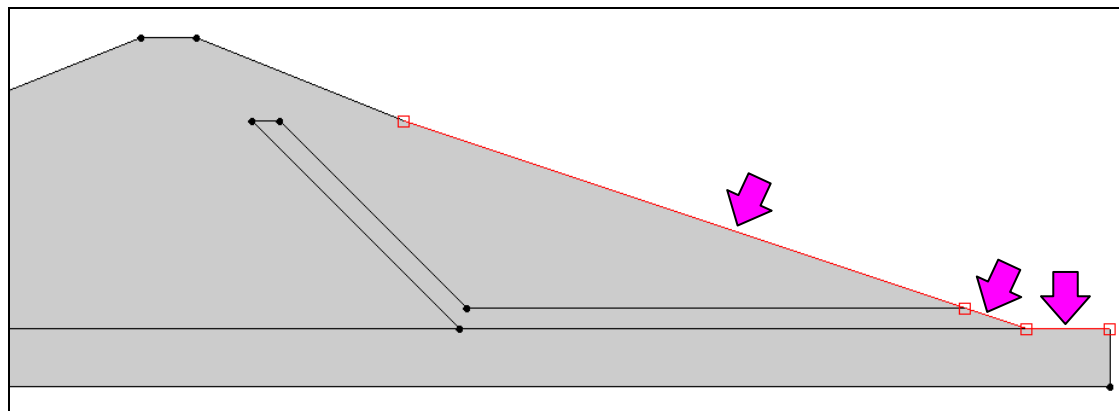

Figure 8. The Exit Face Arcs.
2. Double-click one of the three arcs highlighted in Figure 8 below.